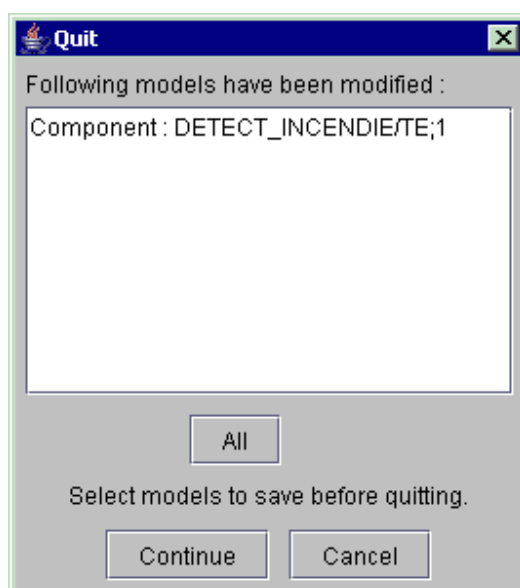

Figure 190 : Saving of modified model (s)
- If one (or several) model(s) has (have) been modified, the following window is displayed (Figure 190):